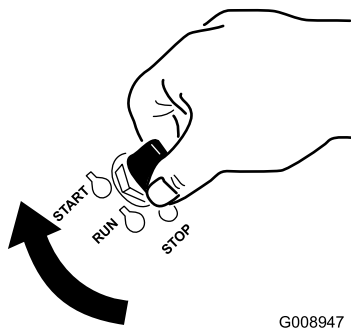

Figure 13
1. Turn the ignition key to the Start position (Figure 13). When the engine starts, release the key.
7. Turn the ignition key to the Start position (Figure 13). When the engine starts, release the key.